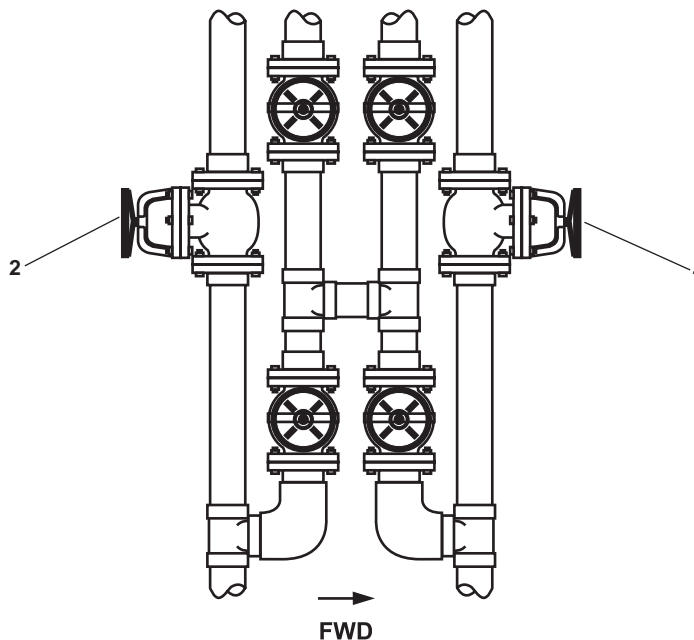

Figure 1. Fire and General Service Pump Valves
- a. FM-16, FIRE/G.S. NO.1 DISCH TO FM (figure 1, item 1)
- b. FM-14, FIRE/G.S. NO.2 DISCH TO FM (figure 1, item 2)
- c. OPEN FM-14, FIRE/G.S. NO.2 DISCH TO FM (figure 1, item 2) or FM-16, FIRE/G.S. NO.1 DISCH TO FM (figure 1, item 1) as required for the online fire and general service pump.